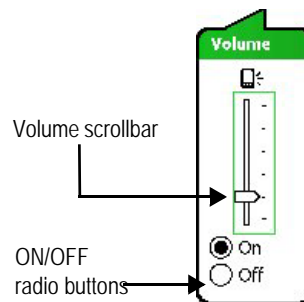

Figure A.2 Handheld Scrollbar and Radio Buttons
- 2 Referring to Figure A.2, do one of the following.